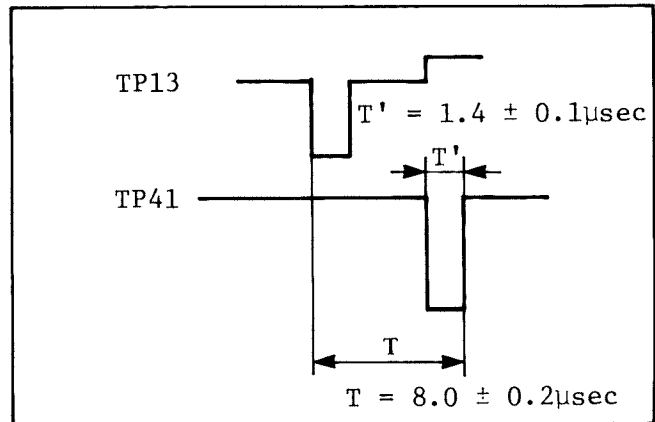

Fig. 2-5-14. I.Q CLAMP PULSE
3. Adjust VR20 (CL POS) so that the T period of the signal is $8.0\mu\text{sec} \pm 0.2\mu\text{sec}$, as shown in Fig. 2-5-14.
4. Confirm that the T' portion of the signal is $1.4\mu\text{sec} \pm 0.1\mu\text{sec}$, as shown in Fig. 2-5-14.